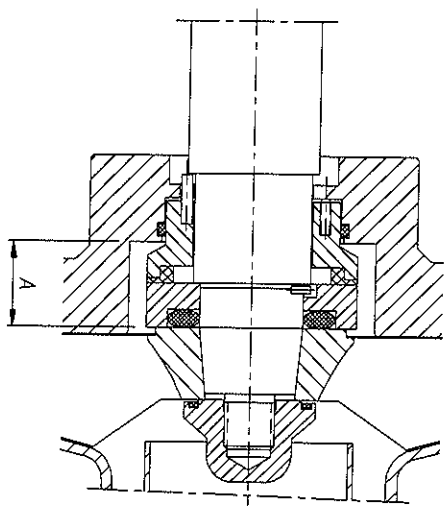

Figure 8.1 : single mechanical seal
- Assemble the top cover (2) in the lantern / support (1). For the M-38/40 assemble the allen screws (56). First, the fixed part of the mechanical seal (53) has to be placed in the cover housing. Check the position of the pivot for the fixed part of the seal.
- Slide the rotating part of the mechanical seal (51) over the shaft, making sure that the pivot that drives the shaft is positioned in its housing, See Figure 8.1.